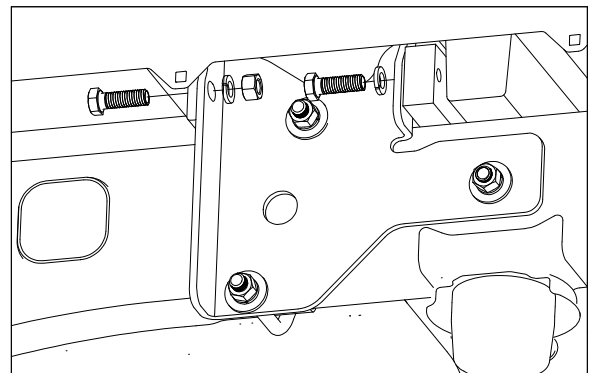

**Figure C3:** View looking at driver side frame.
- 2. Install frame studs.** Locate the oval hole on the outside of the frame directly over the center line of the axle. To begin, place a 1/2" x 1-1/2" carriage bolt through a locking strap. Next, thread a fish wire onto the end of the carriage bolt. From the inside of the frame pass the fish wire through the oval hole located earlier. While holding the fish wire on the outside of the frame push the locking strap and carriage bolt into the frame, see Figure C3. Continue pulling on the fish wire until the threaded portion of the bolt is sticking out of the frame. Turn the carriage bolt until the square shoulder engages the square hole of strap. Before removing the fish wire, thread the oval frame spacer on the carriage bolt and into the oval slot. Remove the fish wire and thread a bolt retainer on the carriage bolt to hold the bolt in place. Repeat this step on other side of the truck.